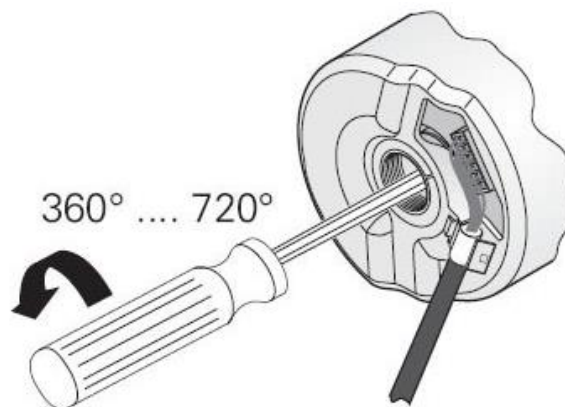

Figure 24: Loosen M5 bolt
3. Loosen the bolt M5 inside by hex wrench (4mm) 1~2 turns only. See Figure 24.